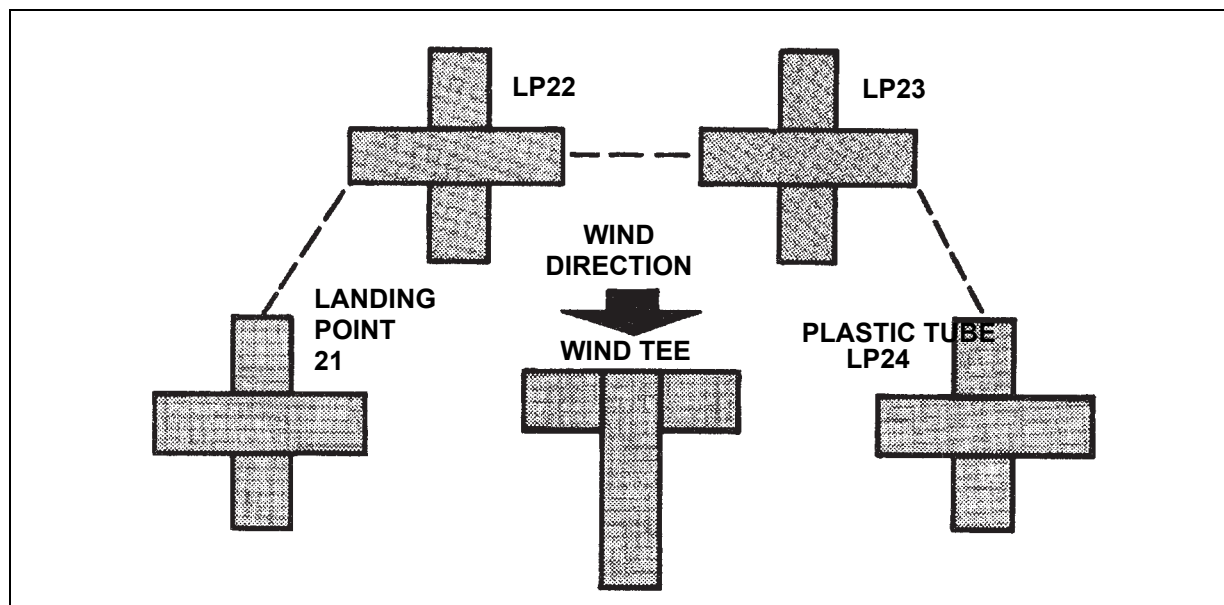

Figure 4-10. Daylight Landing Site Markings (USMC)
- **USMC Markings.** When using marker panels to identify landing sites, the panels must correspond to the color name of the landing site. If a wind sock is used, position it securely in the center of the landing site. Landing points are indicated by placing the corresponding colored marker panels in the form of a cross on the landing point (figure 4-10). Smoke may also be used to identify landing points.